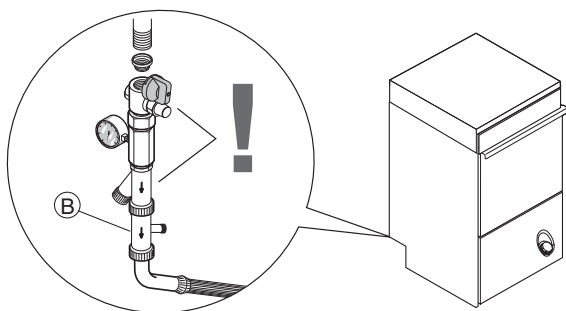

Figure 6
- Connect the appliance water supply pipe "A" (Figure 4) to the mains, fitting a cut-off cock, the filter provided and a pressure gauge between the appliance and the mains (Figure 6).
- In NUC1G/ EUC1G models with incorporated water softener, connect the double non-return valve "B" (Figure 6) supplied and the machine supply pipe.